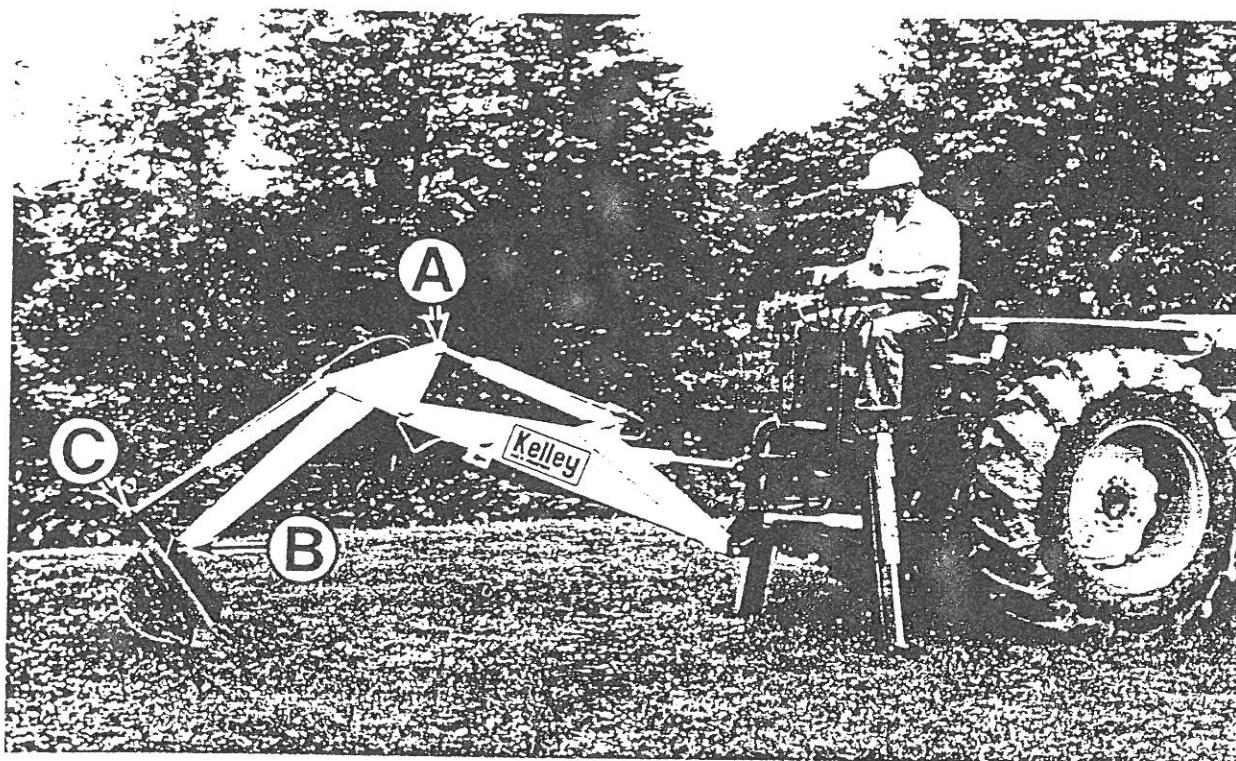

Figure 5
12. Remove the pin from Point A of Figure 5.
21. Remove the pin on the dipper stick, Point B of Figure 5. Position the dipper stick and bucket cylinder in order to mount the bucket. Mount the bucket at Points B and C of Figure 5. Secure the bucket pin with the 3/8" set screw and lock with jam nut. Secure bucket cylinder pin with 5/16" cotter pin.